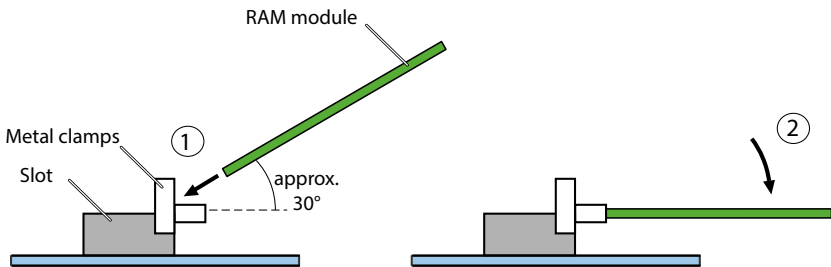

Fig. 79 Changing the RAM module
4. Place the module at a slight angle into the slot (see Fig. 79).